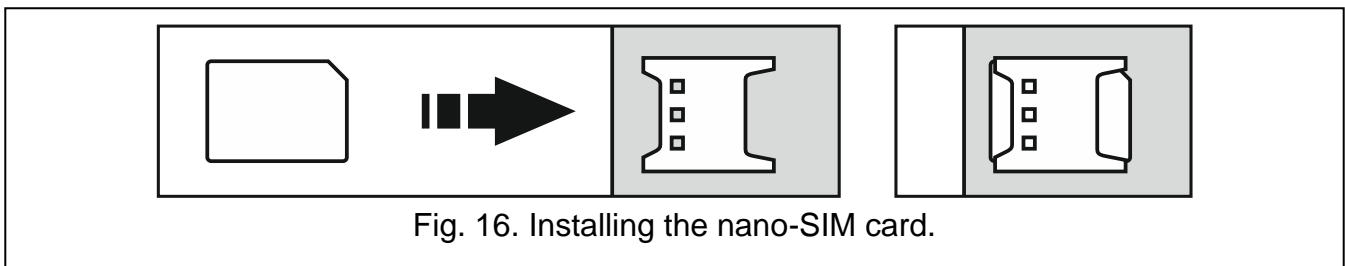

Fig. 16. Installing the nano-SIM card.
3. Insert the SIM card / cards into the socket / sockets (Fig. 16).